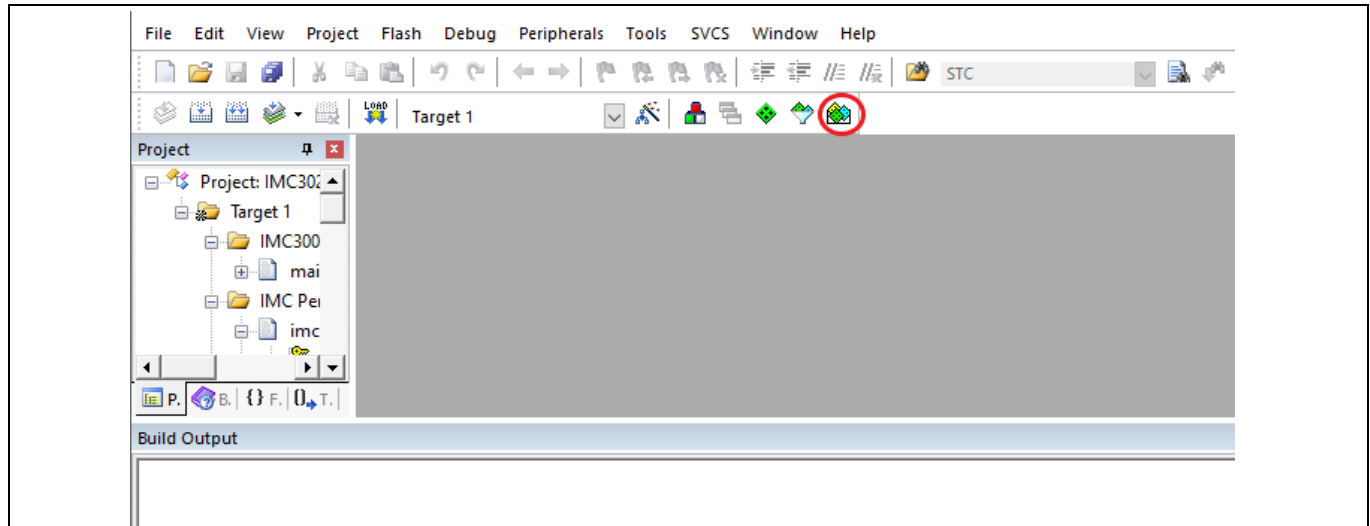

Figure 2 Keil μ Vision® IDE Pack Installer
- 2) Open Keil μ Vision® IDE and select the “Pack Installer” as shown in Figure 2.